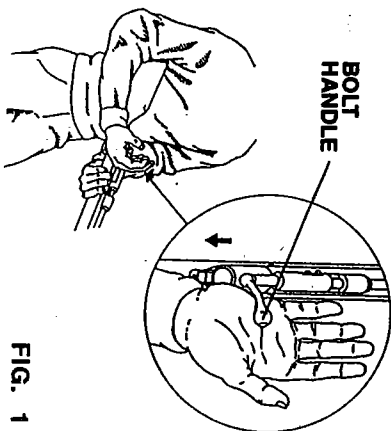

FIG. 1
- Push bolt handle up and pull all the way back until you hear two clicks and bolt stays rearward. (Fig. 1).